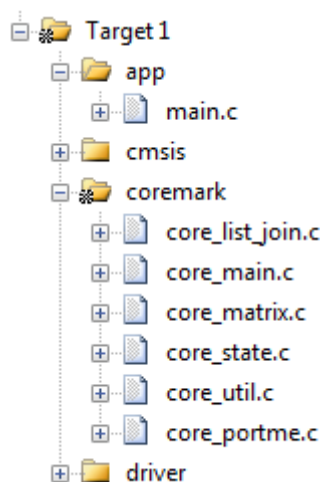

Figure 8. An example project with CoreMark source files on µVision IDE
- 2) Add CoreMark source files (see Figure 8) in your Makefile or preferred IDE (GCC, IAR embedded workbench IDE, Keil µVision IDE).